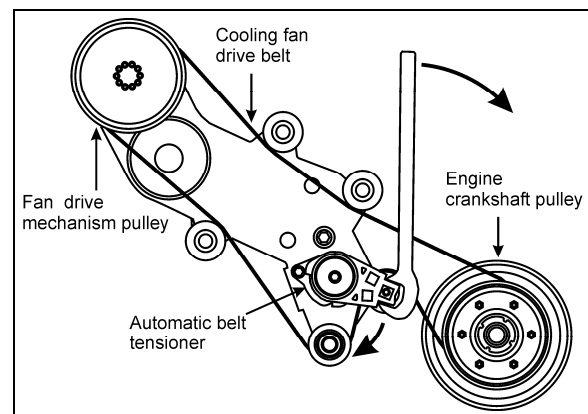

FIGURE 31: DRIVE BELT ROUTING (DDC S60 ENGINE) 05137
1. Wrap the new drive belt around the fan drive mechanism pulley, the idlers and the automatic tensioner idler as shown on figures 31 & 32.
clockwise direction to relieve tension on the belt and hold the tensioner in that position (Fig. 31 & 32).